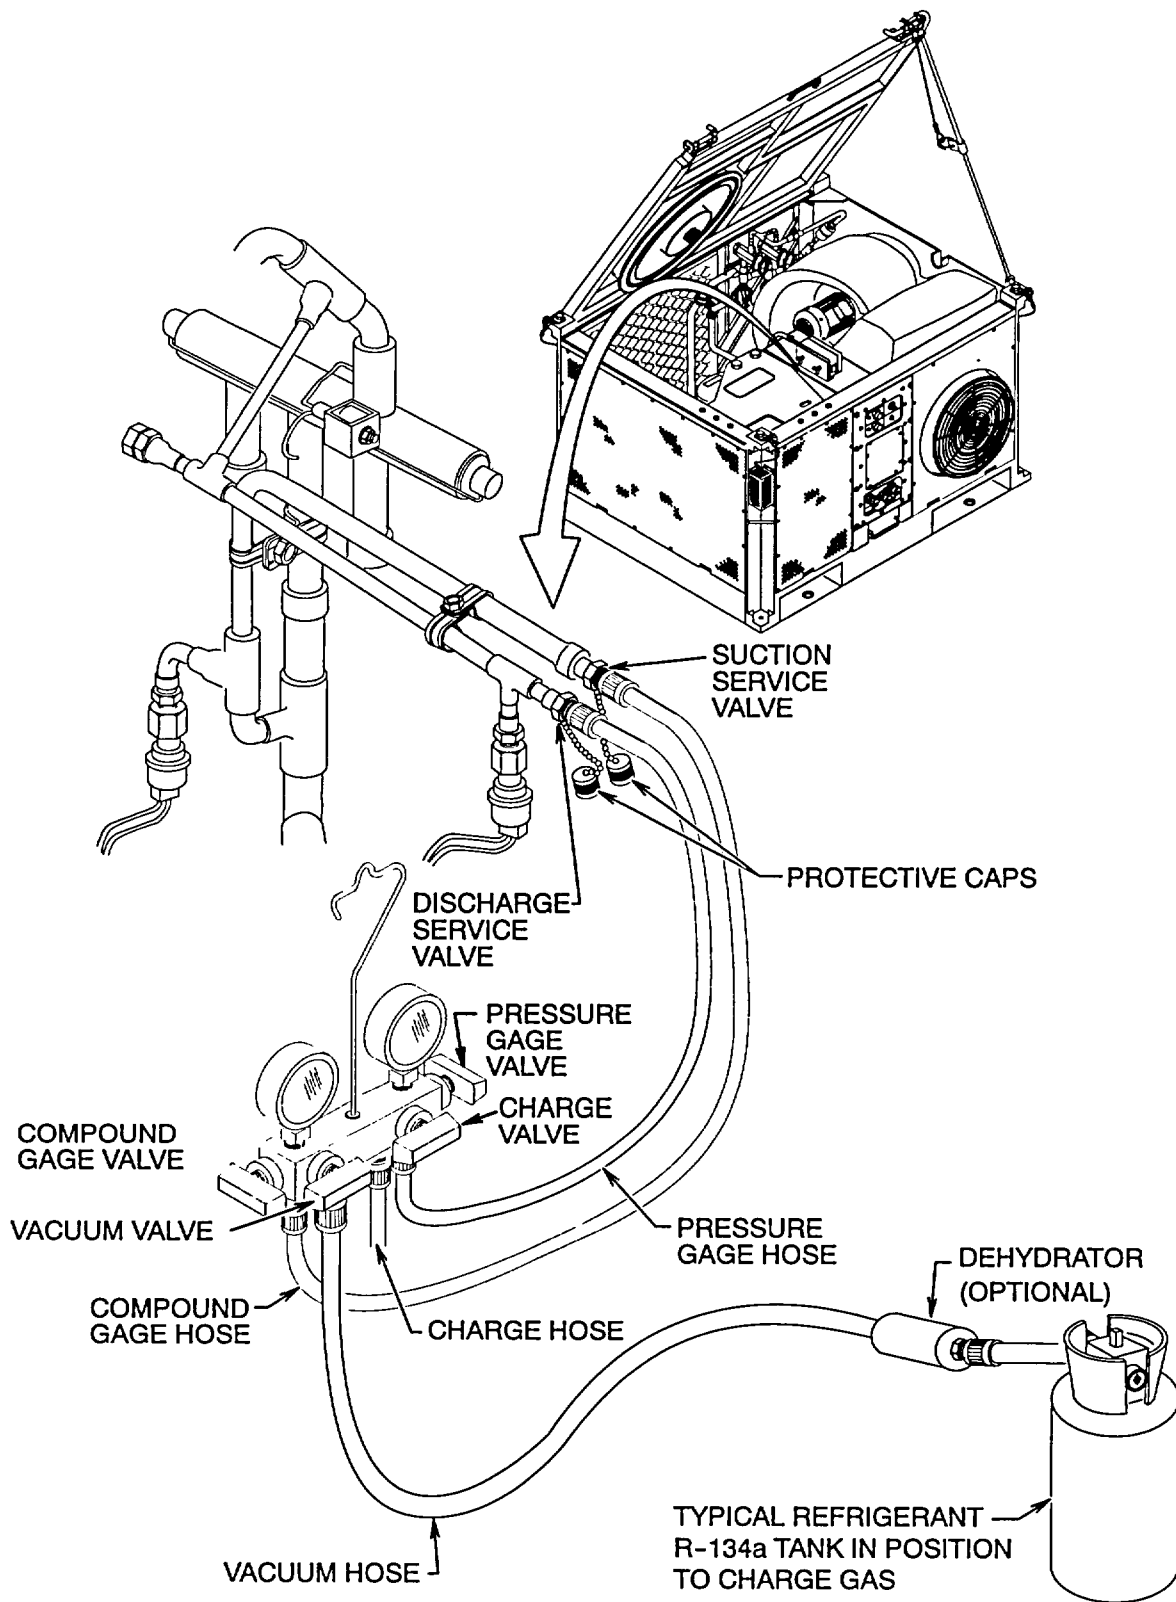

Figure 5-7. Refrigerant Charging (Partial System /Small Quantity Charge)
- (18) Be sure all service manifold valves are closed.
- (19) Shutdown the FDECU per paragraph 2.4.
b. Partial Charge. See figure 5-7.
- (1) Install service manifold per paragraph 5.3.
- (2) Evacuate the refrigerant system per paragraph 5.8.
- (3) Connect the charge hose to a tank containing refrigerant R- 134a set to deliver gas and the vacuum hose to reclaim unit.
- (4) Check that compound gage and pressure gage valves are closed.
- (5) Open vacuum and charge valves.
- (6) Open refrigerant tank valve. Operate reclaim unit for 3 to 5 seconds to purge hoses.
- (7) Close refrigerant tank, vacuum, and charge valves then stop reclaim unit.
- (8) Connect FDECU to power source and operate per paragraph 2.4.
- (9) Set refrigerant tank to deliver gas only.
- (10) Check that all service manifold valves are closed.